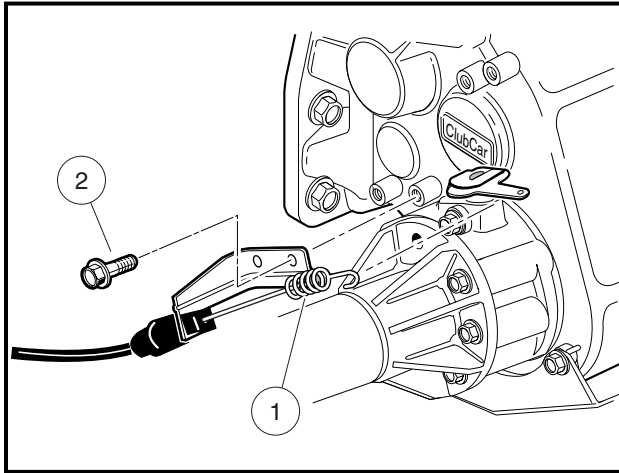

Figure 16-39 Differential Lock Bracket Installation
3. Position the transaxle mounting plate on the two mounting studs at the rear of the engine, and install the two mounting nuts (Figure 16-39, Page 16-16).
5. Tighten the four corner nuts (with bolts) to 30 ft-lb (40.7 N·m). Tighten the two center nuts (on the studs) to 17 ft-lb (23.1 N·m) (Figure 16-39, Page 16-16).